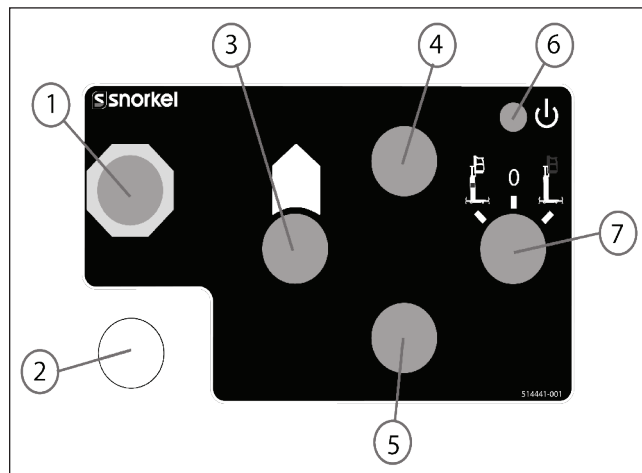

Figure 9.1 – Lower Control Station DC Models
1. Twist and pull the emergency stop button outward (refer to Figure 9.1 and 9.2).
1. From the lower controls, twist and pull the emergency stop button outward (refer to Figure 9.1 and 9.2).